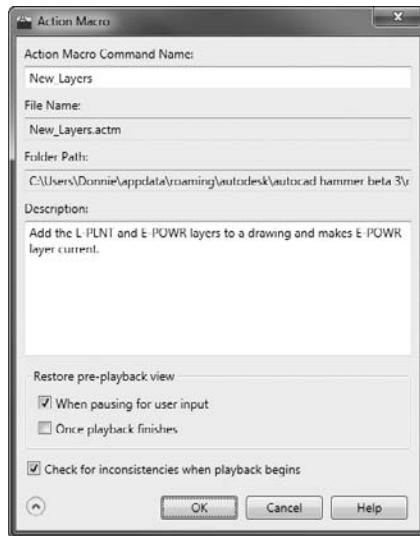

FIGURE 6.52 The Action Macro dialog box
8. In the Action Macro dialog box that opens (see Figure 6.52), enter **New_Layers.J** in the Action Macro Command Name field and add a description if you like.